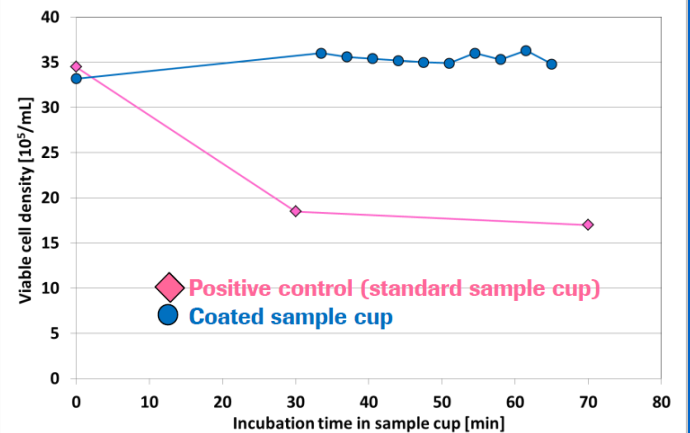

Figure 4: Adsorption of cells to uncoated vs. low fouling coated cups
- ➔ No adsorption of the cells to the coated sample cups (see figure 4)